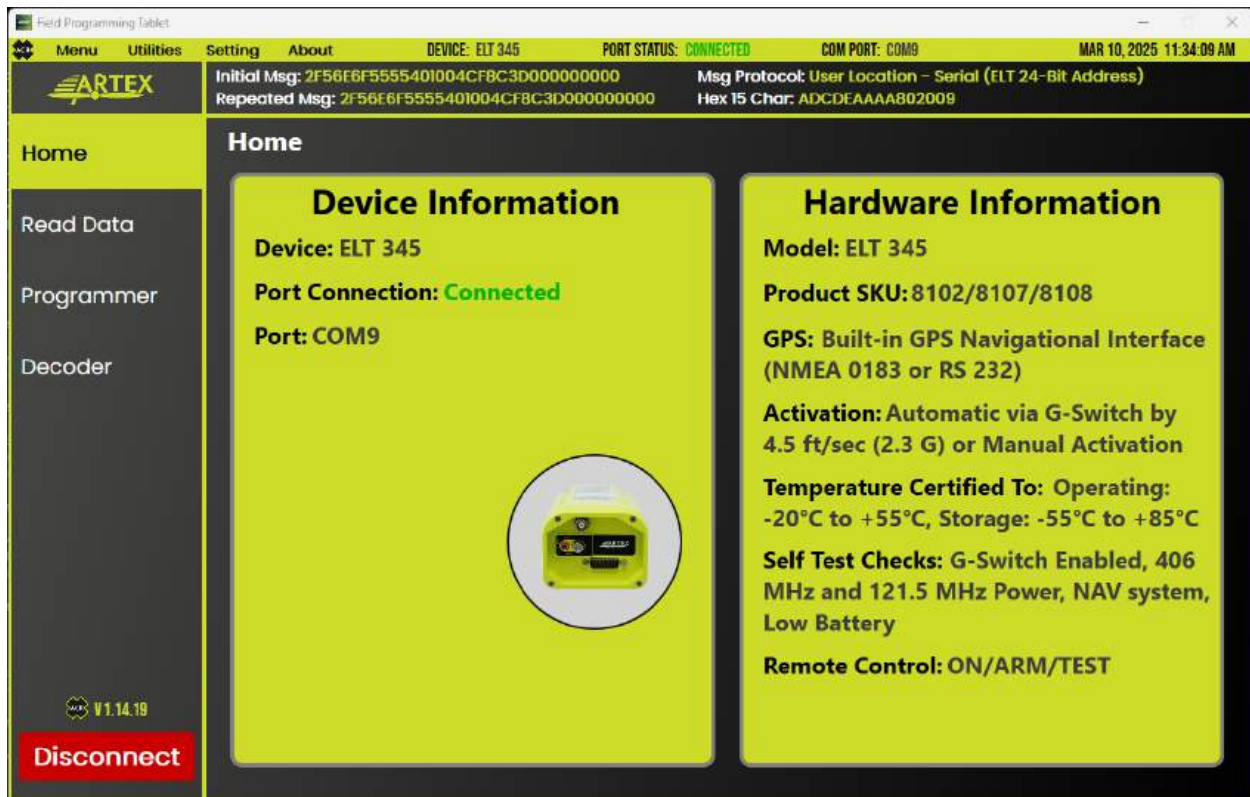

Figure 9 - FPT Home Page
2. Once connected, the home page displays the following (Figure 9):